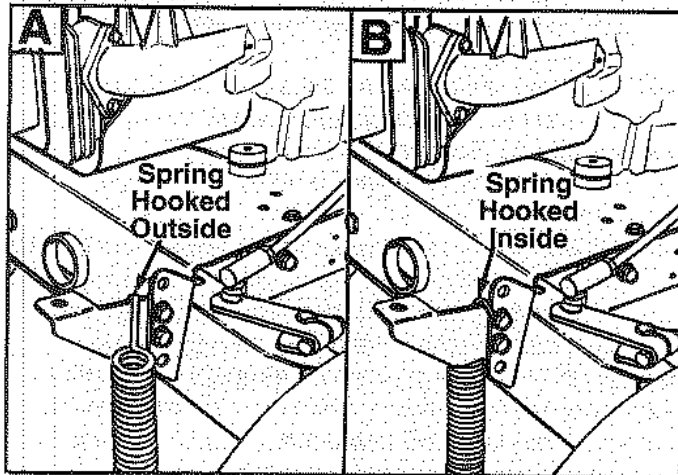

FIGURE 16.
- Hook the ends of the helper springs (AJ) over the grille mounting brackets. If you assembled the helper spring brackets to the outside of the linkage arm assemblies (see figure 3A), the springs go outside the grille mounting brackets. If you assembled the helper spring brackets inside of the linkage arm assemblies (see figure 3B), the springs go inside the grille mounting brackets. See figure 16.
- Place Belleville washers (AL) underneath helper spring brackets (cupped side of washer goes against the bracket). Thread the full thread hex bolts (AK) through washers, brackets and into springs. Tighten until springs are against brackets.